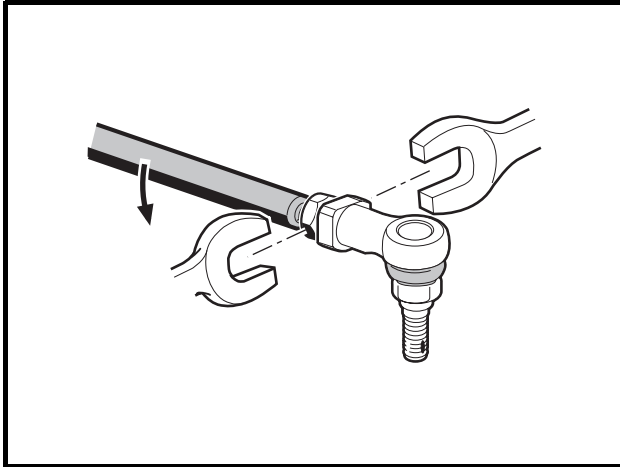

Figure 7-7 Drag Link Ball Joint
2. Remove the two outer ball joints from the drag links (**Figure 7-7, Page 7-5**).
19. Loosely install the two nuts and drag link ball joints. Advance the ball joints and nuts onto the drag link ends (**Figure 7-7, Page 7-5**). Nuts will be tightened during the toe-in adjustment procedure. **See Toe-in Measurement on page 7-12.**